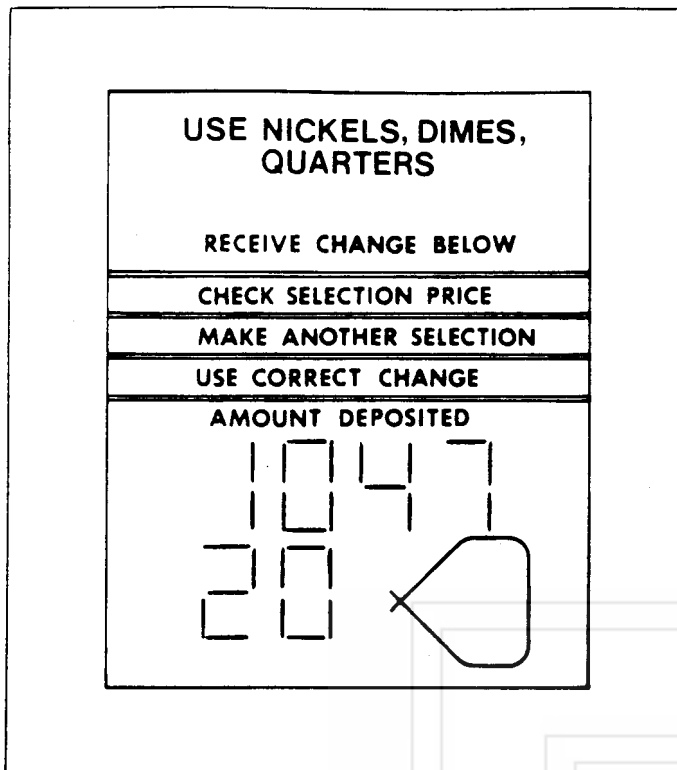

Figure 19. SHOWING A SERIAL NUMBER OF 104720
- C. Enter the new number by pressing the panel number button; Button #10 equals 0 (Figure 19).